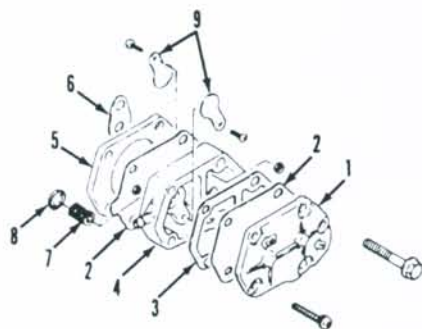

Fig. SZ11-4—Exploded view of diaphragm type fuel pump.
**FUEL PUMP.** A diaphragm fuel pump (Fig. SZ11-4) is mounted on the side of power head cylinder block and is actuated by pressure and vacuum pulsations from the engine crankcase.